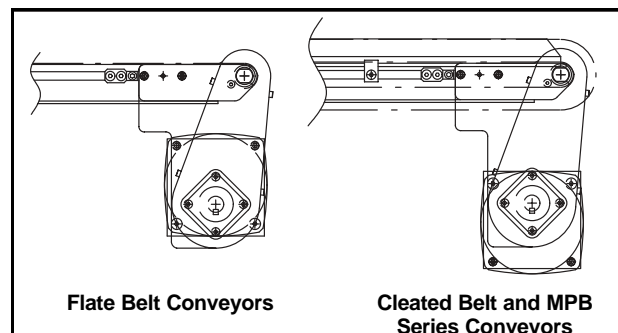

Figure 3
For MPB Series and Cleated Belt Conveyors Gearmotors must be mounted as shown in Figure 3.
*Gearmotor position on Flat Belt conveyor shown at left (**Figure 3**). Gearmotor position on Cleated Belt or MPB Series conveyor shown at right (**Figure 3**).*